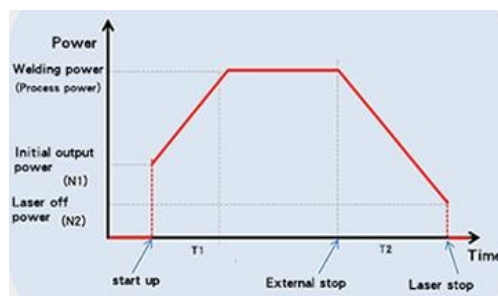

Fig. 3.4 Power ramp at start (N1) and stop (N2)
- 3 Ramp:** at the start the power rises from N1 % of the process power to 100 %; at the end it falls from 100 % to N2 % (Fig. 3.4). Usual presets: start/stop power 20 %, ramp time 200 ms.
- 3 Ramp** from N1 % to 100 % and from 100 % to N2 % (see Fig. 3.4). The higher the process power, the lower the start power should be. The start power should normally not exceed 50 %; too high a start power greatly reduces the life of the lenses.